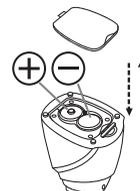

Figure 3
3. The right place of battery. (Refer to Figure 3)